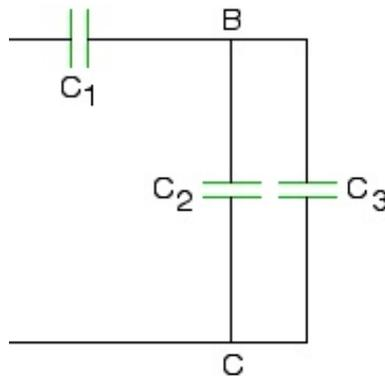

Figure 3: Capacitors in Combination
4. Construct a COMBINATION circuit as in Figure 3. Measure and record your values for these circuits in Table 4. Remember to switch off the meter when you are done.